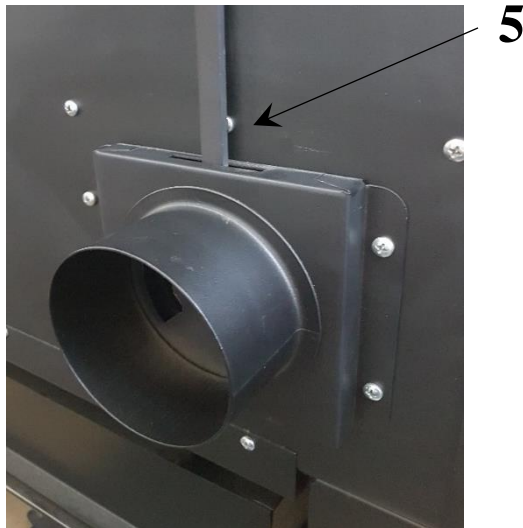

Figure 4
Primary combustion air, and thus the heating capacity of the stove, is determined through the primary air opening. That air is controlled on the ashtray support through the slide shutter for the primary combustion air (Figure 4, item 5).